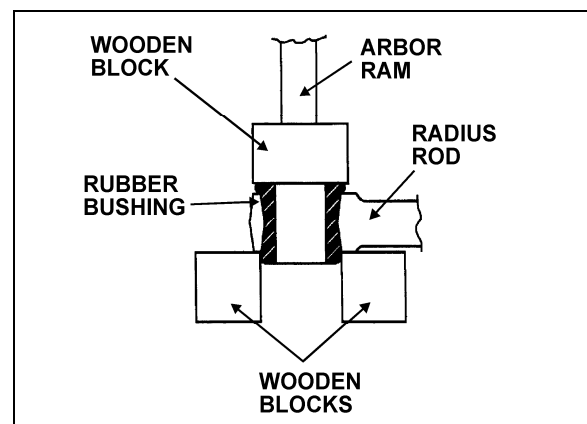

FIGURE 48: RADIUS ROD BUSHING INSTALLATION 16012
2. Safely support the radius rod, and place new bushing on top of the radius rod end (Fig. 48).